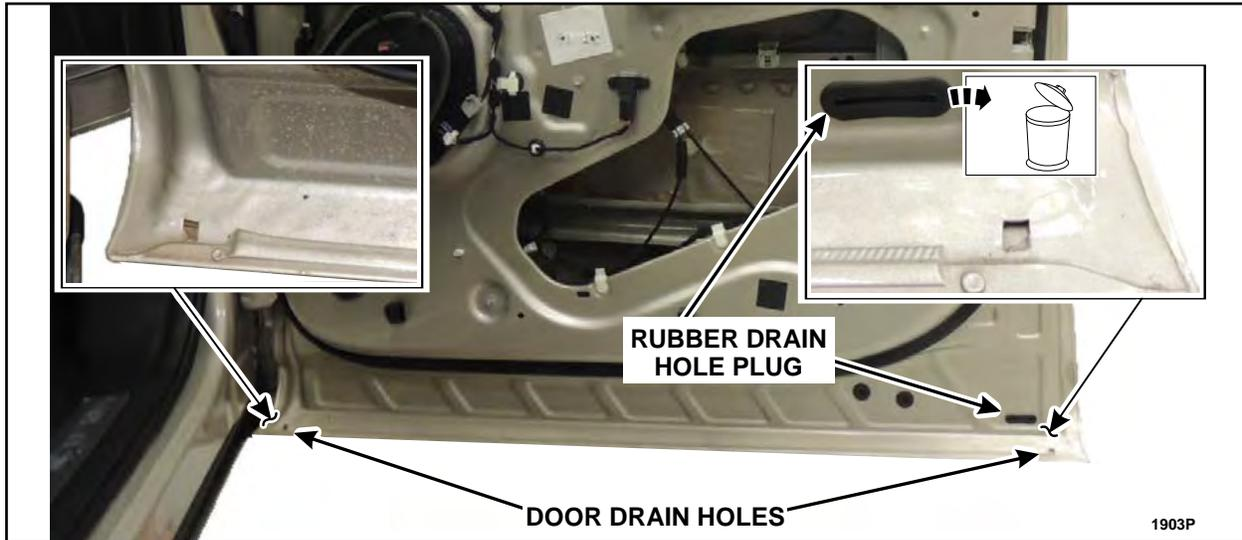

FIGURE 54
3. Remove and discard the rubber drain plug and clean any obstructions, debris, foreign material and residual water from all of the door drain holes using compressed air and a *tool such as a plastic trim tool or a zip tie*. See Figure 54.